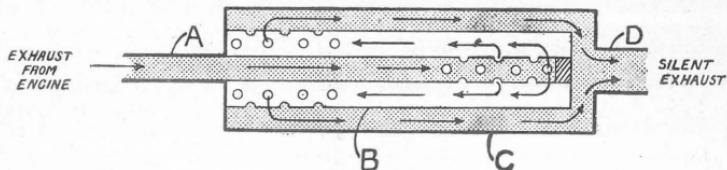
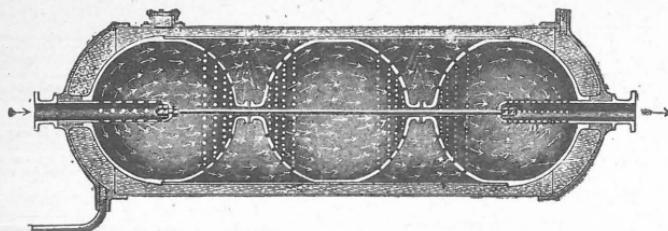

Fig. 1.—A simple type of silencer.
Fig. 3.—A water-cooled silencer.
There are a great many different patterns of silencer, but in all the principle is very much the same, and may be easily understood from Fig. 1. A is a pipe connected to the exhaust port of the motor, closed at its right-hand end and perforated with holes as shown. Outside this pipe is another pipe or tube (B) with holes at its left-hand end, and outside this again is a third tube (C) with a single outlet (D) at its right-hand end. The exhaust gas from the engine passes along the tube (A), escaping through the small holes into the tube (B). It then travels back through B and through the holes at the end of it into the outer case (C), and finally escapes through the outlet (D). The gas is thus slowly allowed to expand and cool as it passes through the silencer, and, being well broken up by the time it reaches the outlet, produces little noise. Any number of tubes (in reason) may be used; the more there are of them the more quiet will be the exhaust; the only limit is the amount of the resistance to the passage of the exhaust that
The exhaust, when it leaves the engine, is very hot, not so hot as when the explosion first takes place, but still hot enough to make a cabin very unpleasant and even to char woodwork that is too near it. For this reason exhaust pipes are often lagged with asbestos, but a much better way is to water-jacket them just as cylinders are water-jacketed. The same water that cools the cylinders can be passed through the pipe jacket without the use of an extra pump, and the jacket should also be continued round the silencer. Fig. 3 shows one type of water-jacketed silencer and also gives an arrangement for breaking up the exhaust that takes the place of the tubes shown in Fig. 1.